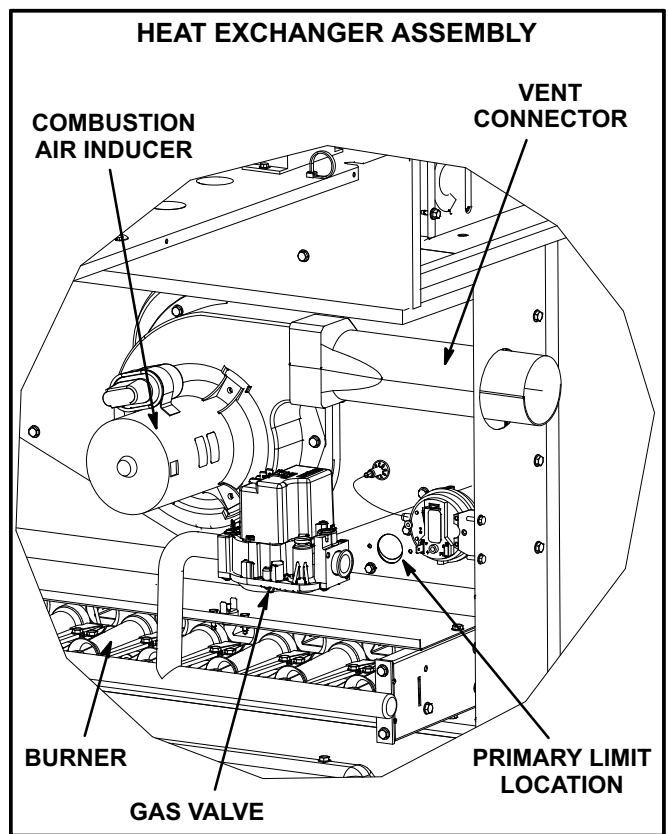

FIGURE 27
Limit controls are factory-set and are not adjustable. The primary limit is located to the right of the combustion air inducer. See figure 27.
- 3- Remove and retain screws securing combustion air inducer to flue box. Remove vent connector. See figure 27.